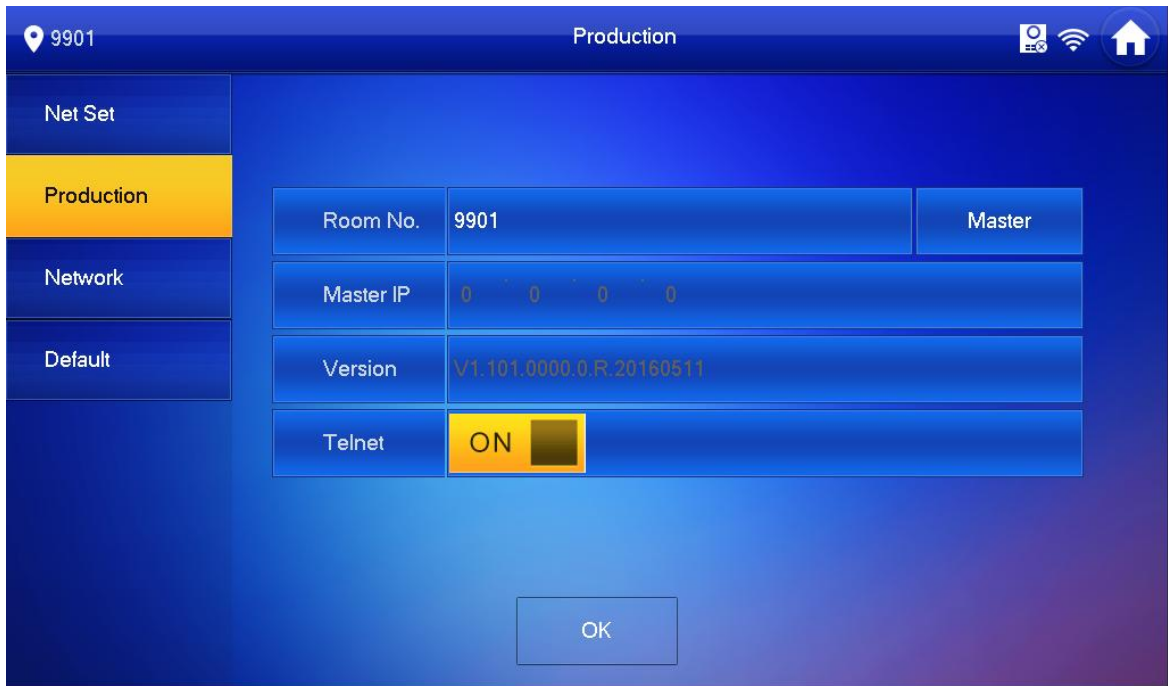

Figure 4-6
- If you want to set this VTH to be master VTH, then you shall select Master. Fill in room no., press OK to save, see Figure 4-6.